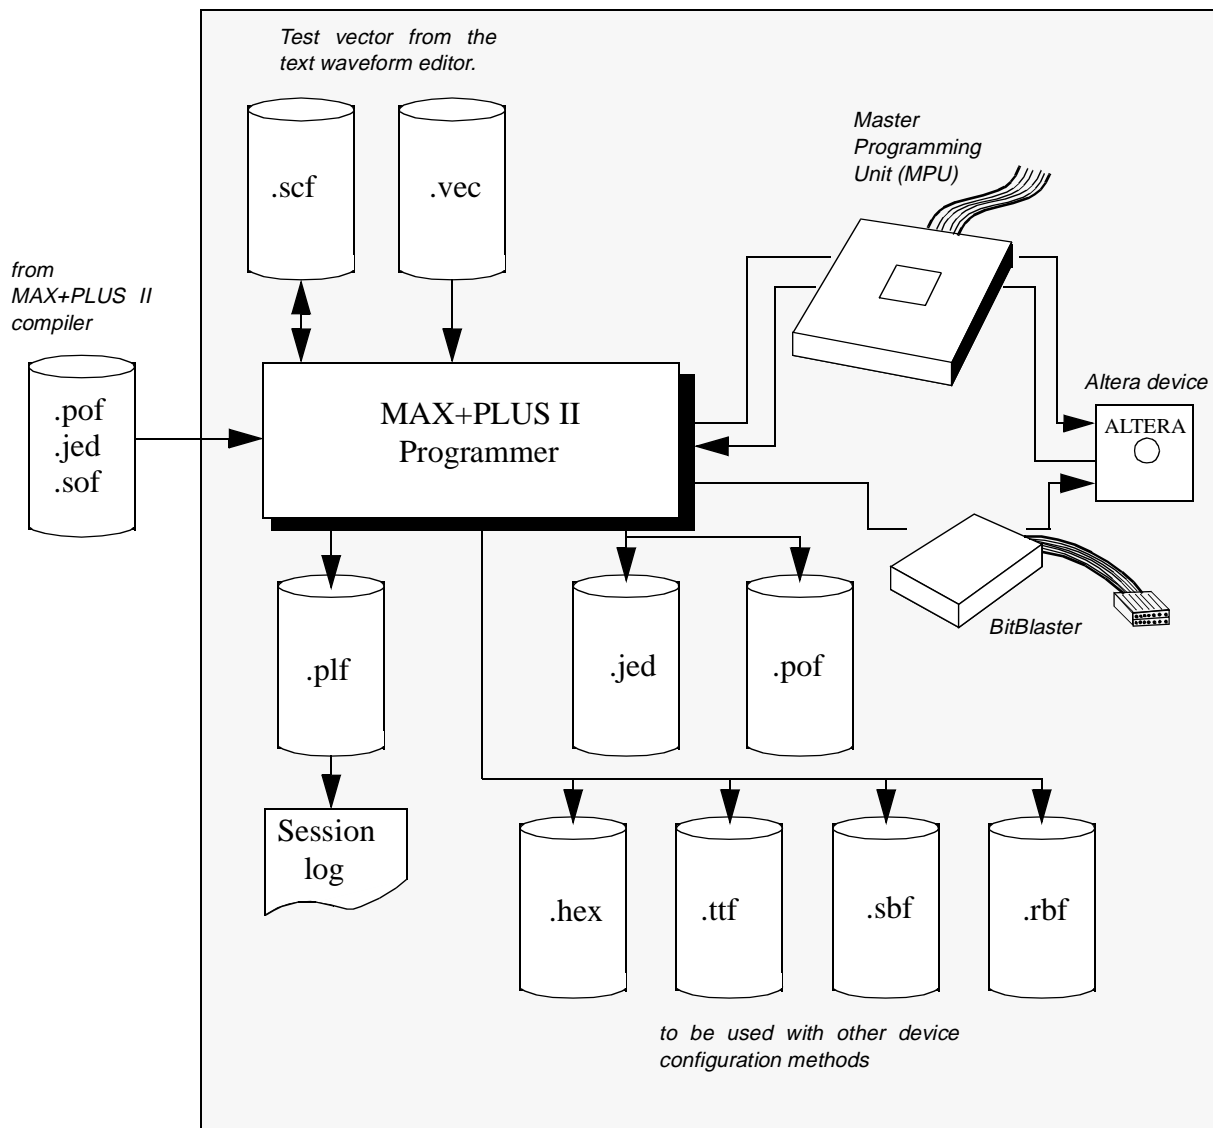

Figure 15 : MAX+PLUS II Device Programming environ-
- See Figure 15 for details of the programming environment.